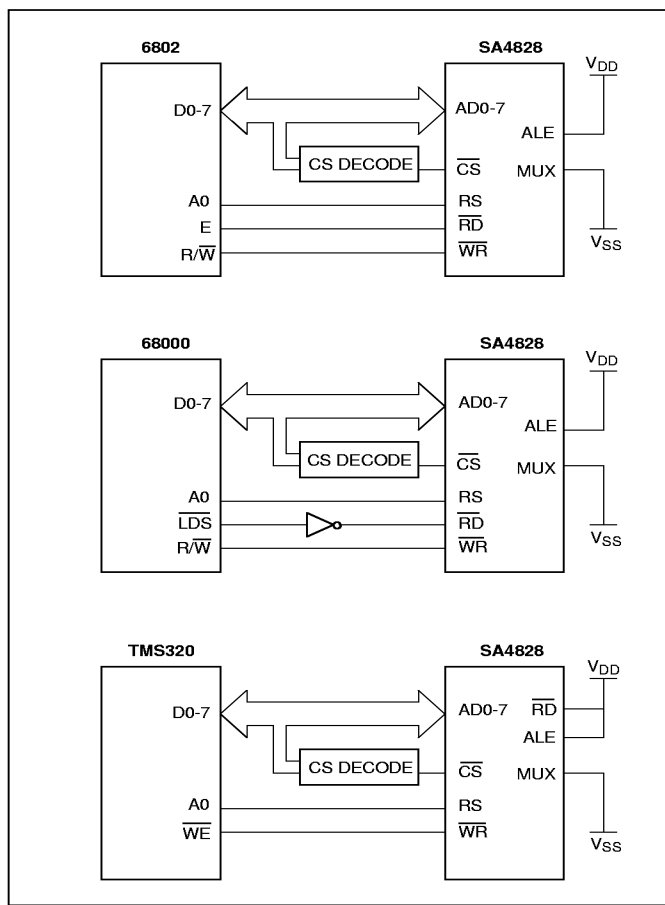

Fig. 13 Connection details for industry-standard non-multiplexed architectures
Fig. 13 shows the connection scheme for some industry standard microprocessors with non-multiplexed data buses. The 6802, 68000 and TMS320 series are given as examples.
Before each successive write operation with non-multiplexed data buses, it is essential that the address is specified using an extra write operation. Therefore, a write to a specific Temporary Register actually consists of two write cycles - the first defines the address and the second defines the data. To differentiate between them, the Register Select (RS) pin is used. This should be low for the first (address) cycle and high for the second (data) cycle. As shown in Fig. 13, this pin is usually tied to the least significant microprocessor address line.